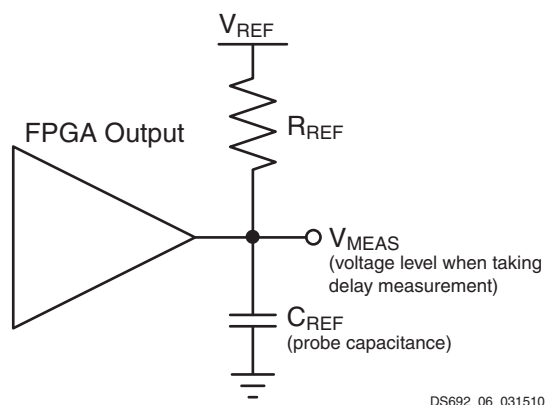
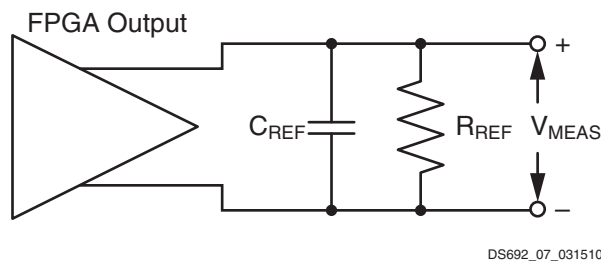

Figure 6: Single-Ended Test Setup
Figure 7: Differential Test Setup
- This is an input voltage reference that bears no relation to the V_{REF} / V_{MEAS} parameters found in IBIS models and/or noted in Figure 6.
Output delays are measured using a Tektronix P6245 TDS500/600 probe (< 1 pF) across approximately 4 inches of FR4 microstrip trace. Standard termination was used for all testing. The propagation delay of the 4-inch trace is characterized separately and subtracted from the final measurement, and is therefore not included in the generalized test setups shown in Figure 6 and Figure 7.